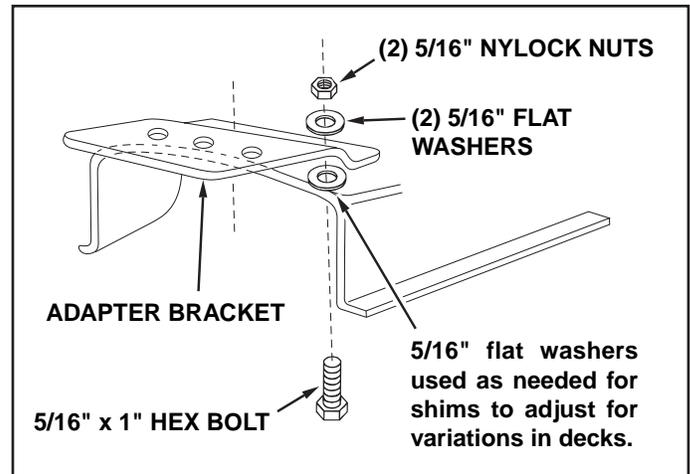

FIGURE 26
- Assemble the adapter bracket to the deck using two 5/16" x 1" hex bolts, 5/16" flat washers and 5/16" nylock nuts. See figure 26.
**NOTE:** It may be necessary to use extra 5/16" flat washers to shim under the bracket next to the deck surface. Ten extra washers have been furnished as shims. See figure 26.